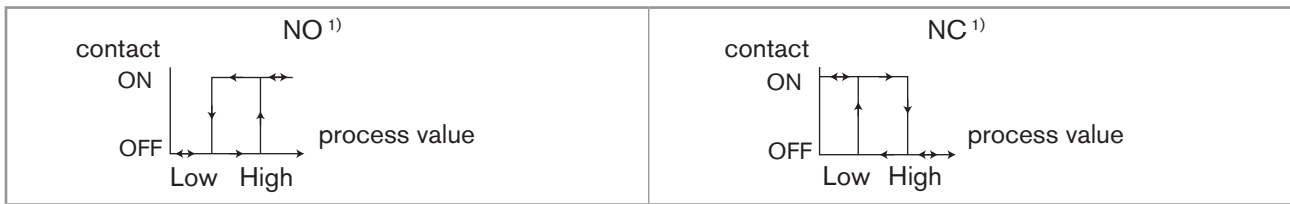
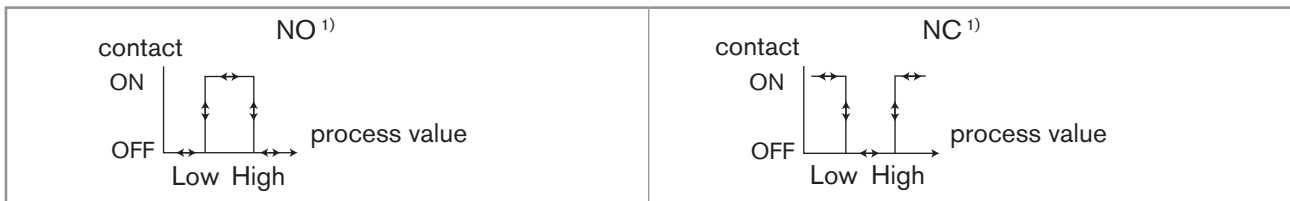

Fig. 35: Hysteresis operating
Fig. 36: Window operating
**MODE:** choose the operating, hysteresis or window, for transistor output 1 or transistor output 2. See "Fig. 35" and "Fig. 36".
**LOW:** enter the low switching threshold value for transistor output 1 or transistor output 2. See "Fig. 35" and "Fig. 36".
**HIGH:** enter the high switching threshold value for transistor output 1 or transistor output 2. See "Fig. 35" and "Fig. 36".
**CONTACT:** choose the type of off-position (normally open, NO, or normally closed, NC) of transistor output 1 or transistor output 2. See "Fig. 35" and "Fig. 36".
Switching only occurs if one of the thresholds, high or low (functions "High" or "Low"), is exceeded for a duration longer than this time delay. See "Fig. 35" and "Fig. 36". The time delay before switching is applicable to both output thresholds.